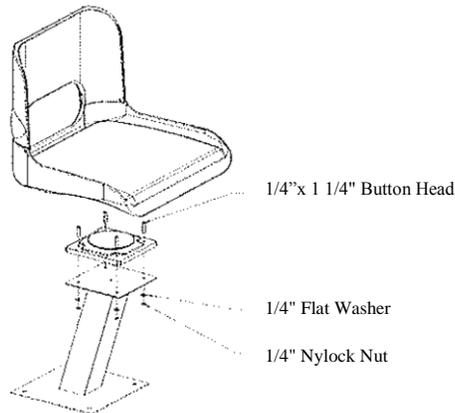

Figure 2
Step 1. Locate the Seat Pedestal, Seat Swivel, and the Folding Seat. Use the Hardware shown in figure 2 to attach the Swivel to the Pedestal. Next, slide the Seat Swivel onto the bottom of the folding seat.